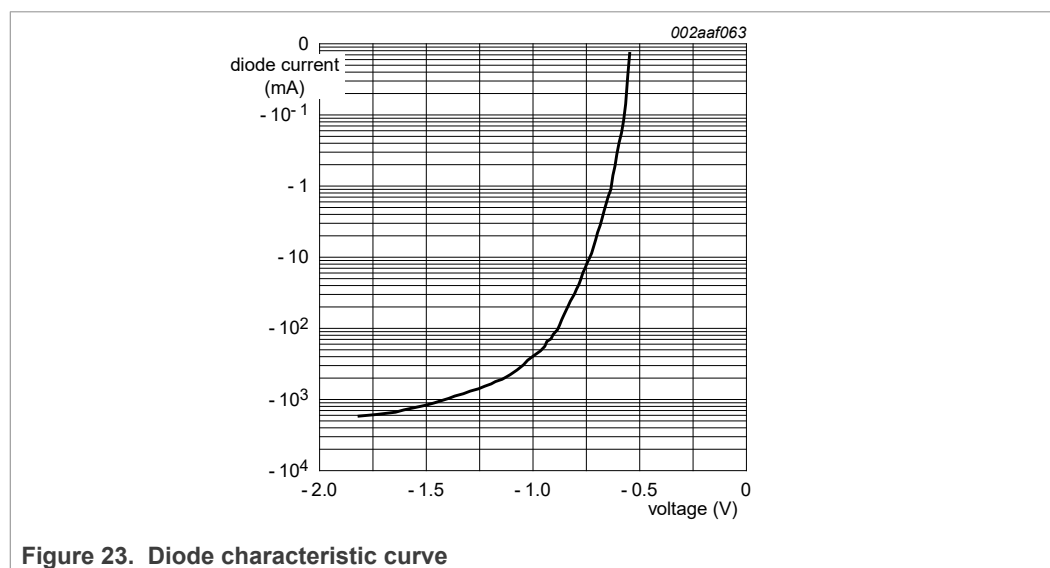

Figure 23. Diode characteristic curve
Figure 23 shows the measured characteristic for one of those diodes inside PCA9601. The plot was made using a curve tracer that applies 50 Hz mains voltage via a series resistor, so the pulse durations are long duration (several milliseconds) and are reaching peaks of over 2 A when more than -1.5 V is applied. The IC becomes very hot during this testing but it was not damaged. Whenever there is current flowing in any of these diodes it is **possible** that there can be faulty operation of any IC. For that reason we put a specification on the negative voltage that is allowed to be applied. It is selected so that, at the highest allowed junction temperature, there will be a big safety factor that guarantees the diode will not conduct and then we do not need to make any 100 % production tests to guarantee the published specification.
For the PCA9601, in specific applications, there will always be transient overshoot and ringing on the wiring that can cause these diodes to conduct. Therefore we designed the IC to withstand those transients and as a part of the qualification procedure we made tests, using DC currents to more than twice the normal bus sink currents, to be sure that the IC was not affected by those currents. For example, the TX/TY and RX/RX pins were tested to at least -80 mA which, from Figure 23, would be more than -0.8 V. The correct functioning of the PCA9601 is not affected even by those large currents. The Absolute Maximum (DC) ratings are not intended to apply to transients but to steady state conditions. This explains why you will never see any problems in practice even if, during transients, more than -0.3 V is applied to the bus interface pins of PCA9601.
Figure 23 also explains how the general Absolute Maximum DC specification was selected. The current at 25 °C is near zero at -0.55 V. The PCA9601 is allowed to operate with +125 °C junction and that would cause this diode voltage to decrease by